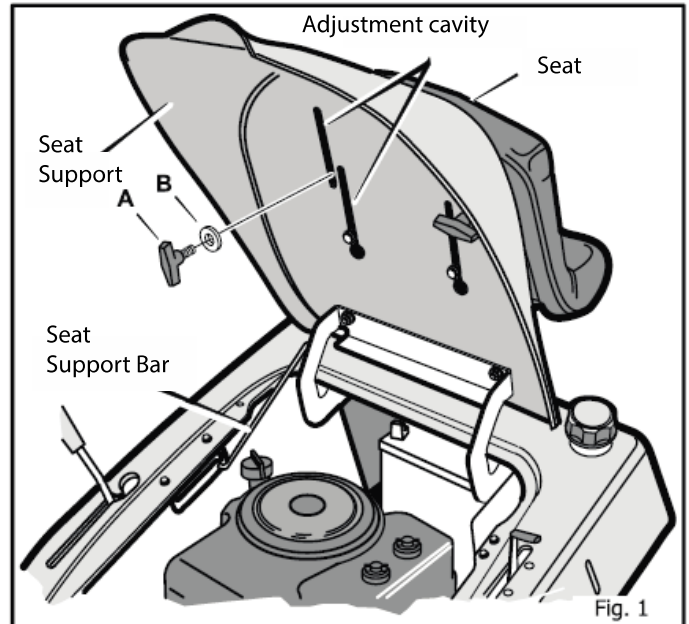

Fig. 1
3. Align the **seat** with those of the **seat bracket** (Fig. 1). Secure the seat to its bracket using the brackets **as shown**.
4. Check the operating position of the **seat**. If the **seat** needs to be adjusted, release the two **wing nuts (A)**. Slide the **seat** forward or backward along the **adjustment cavities** as shown. Tighten the **wing nuts (A)** again.